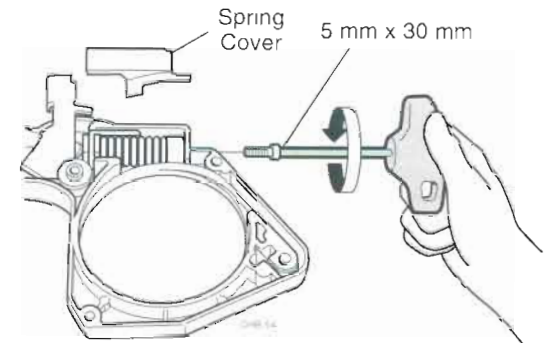

Figure 10.13 Reducing Brake Spring Tension
STEP 1. To reduce spring tension on the brake lever components, install and tighten a 5 mm x 30 mm allen screw through the rear of the cassette and into the end of the coil spring holder (Figure 10.13).